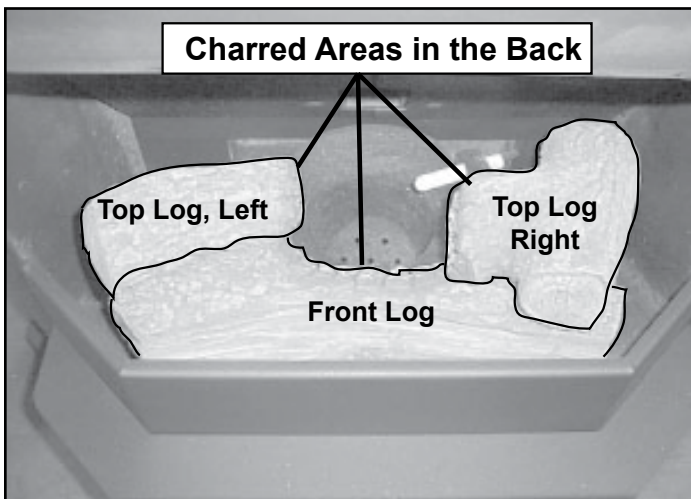

Figure 23.2
2. Set the left and right logs onto the front log, placing the holes in the base of the left and right logs over the locating pins in front log (See **Figure 23.2**). Ensure that the charred ends are facing the fire pot.